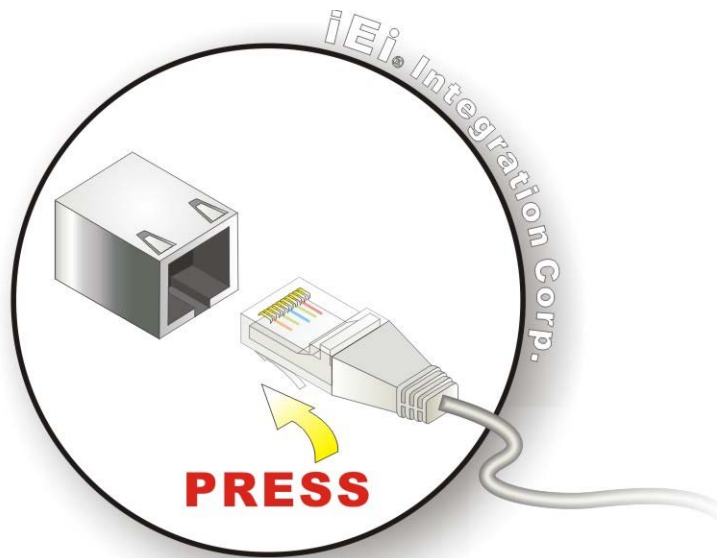

Figure 4-14: LAN Connection
Step 2: Align the connectors. Align the RJ-45 connector on the LAN cable with one of the RJ-45 connectors on the NANO-BT-i1. See **Figure 4-14**.